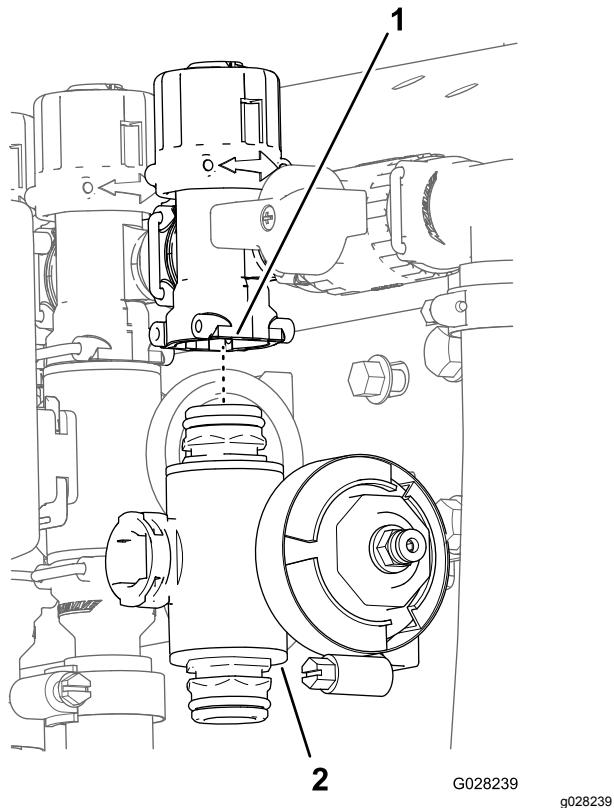

Figure 96
3. For the left or right boom section valves, remove the flanged-head bolts and flanged locknuts that secure the section valve(s) to the valve mount and remove the valve manifold(s) from the machine; for the center section valve, remove the section valve manifold from the machine (Figure 96).